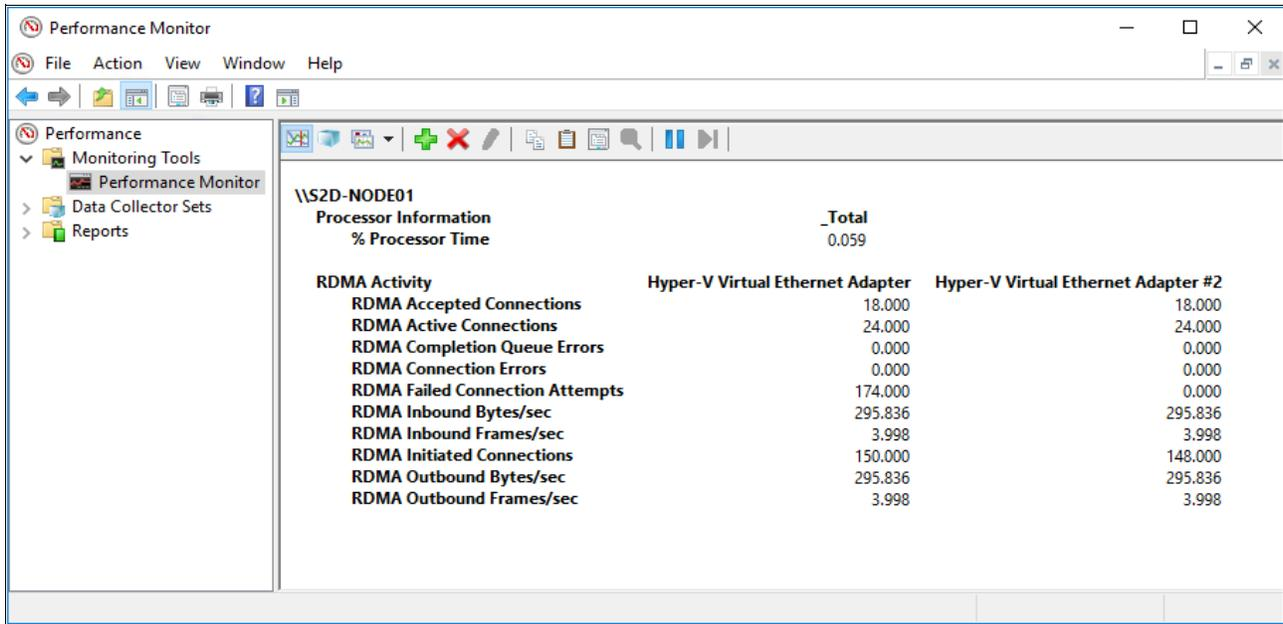

Figure 70 Key RDMA performance metrics
5. This should show a report of RDMA activity for your vNICs. Here you can view key performance metrics for RDMA connections in your environment, as shown in Figure 70 on page 90.